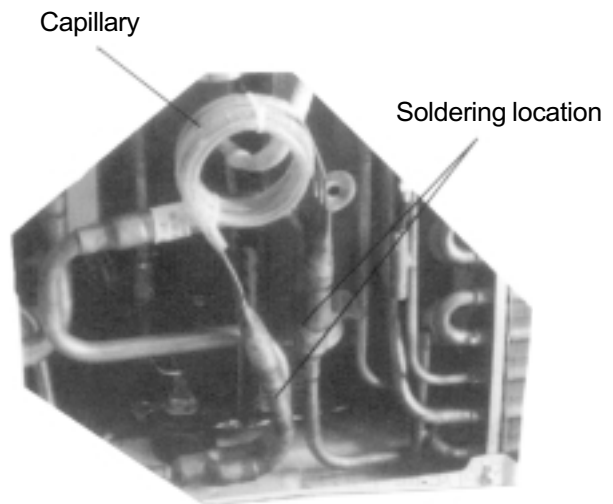

Figure 41
- ⑥ Disassemble the capillary tube
- Remove the capillary as shown in figure 41.